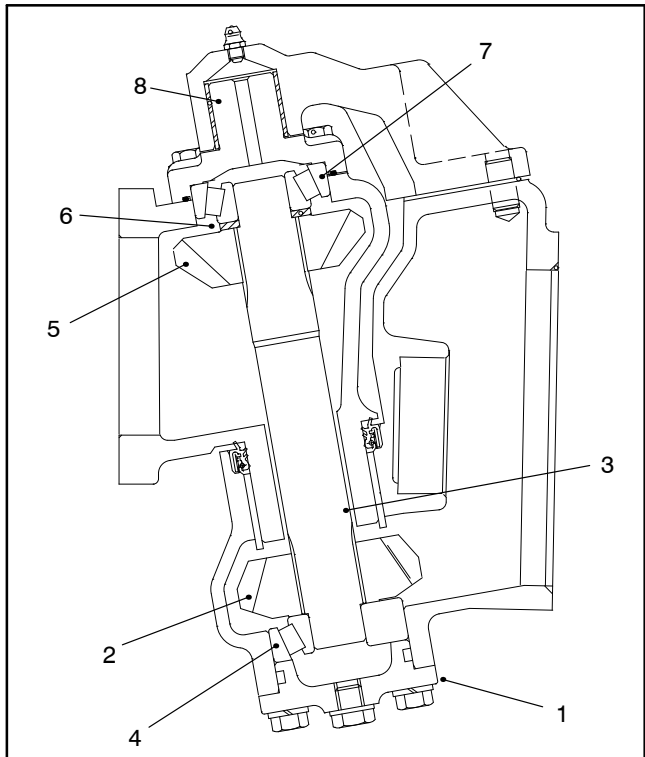

Figure 24
2. Install the lower bevel gear and bevel gear shaft in the axle case cover. Coat a new O-ring with grease and install the axle case cover (Fig. 24). Tighten cover screws from **17 to 20 ft-lb (23 to 27 N-m)**.
3. Slide the bevel gear case over the bevel gear shaft and install the bevel gear and collar. Make sure the bevel gear shaft is completely seated in the upper and lower bearings (Fig. 24).